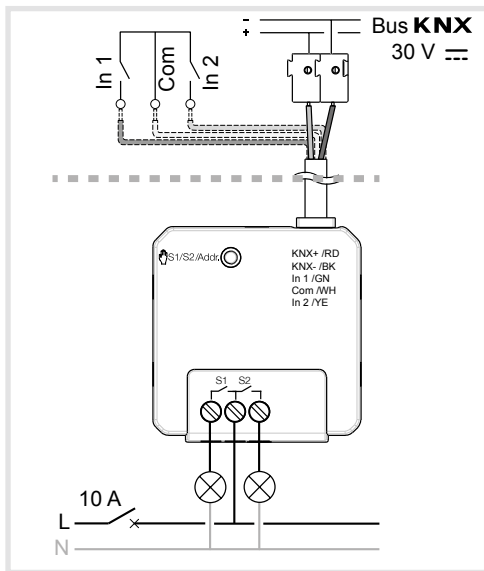

Figure 3: connection of switching loads
- Connect loads (figure 3/4) to the load connecting terminals (2).